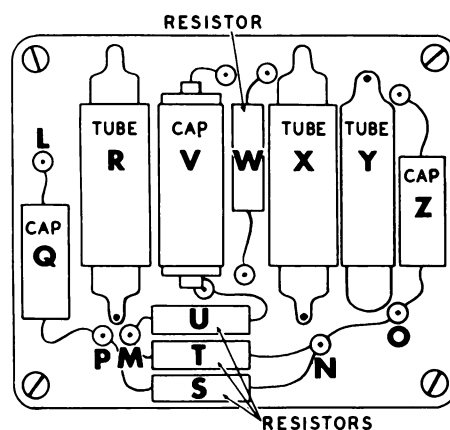

Figure 6A.
Information for items 4 through 15: Assume that a plug-in subassembly consisting of four video amplifier stages is defective. Your problem is to locate the source of the trouble and then to correct it. Figure 6A shows a component parts layout diagram for this subassembly.
6. The malfunction of the subassembly shown in figure 6A is found to be caused by a poorly soldered joint at terminal O. Since the operating temperature of the assembly does not exceed 200° F., the appropriate solder to employ is
8. You should tell Jackson that before he resolders the faulty connection at point O in figure 6A, he should tin his iron by
11. The recommended way to make the solder connections on a miniature assembly like the one shown in figure 6A involves the use of
12. It is very possible that Jackson will damage some part of the miniature assembly in figure 6A if he uses
20. In the miniature assembly shown in figure 6A, tube X is installed with the red dot up, and it has spaces for 8 leads. If two of the spaces are blank, the lead farthest from the red dot is number
21. In replacing tube X of figure 6A, the location of the proper soldering connection for each lead is obtained from the